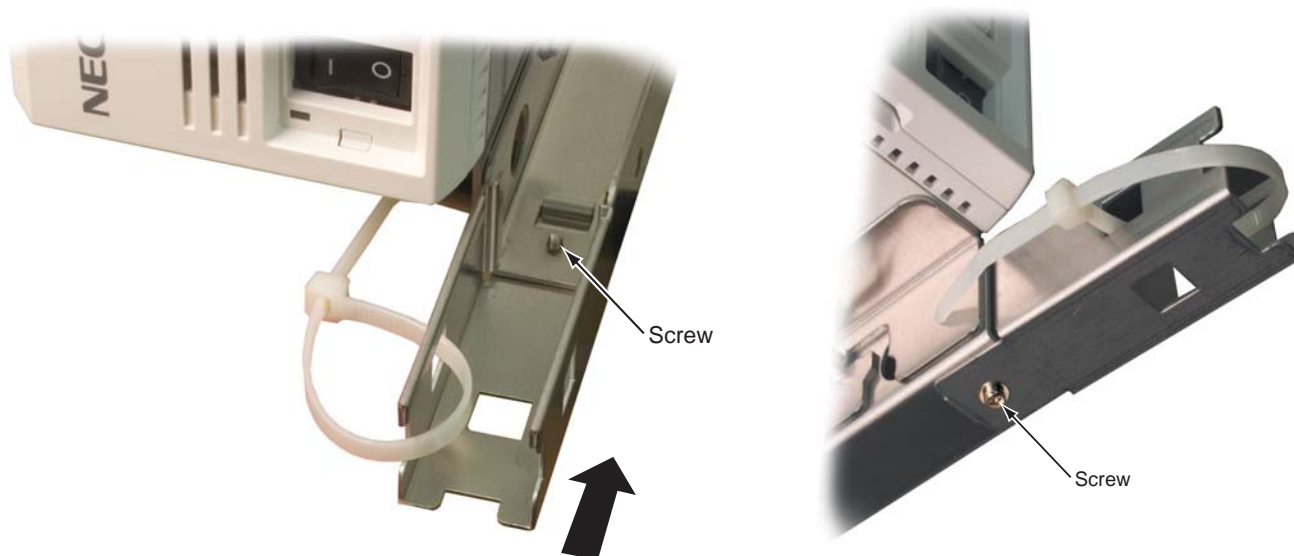

Figure 1-65: CONNECT THE CABLE SUPPORT
1.7.4 Securing the Chassis-A to the Wall (Figure 1-47 - Figure 1-65)